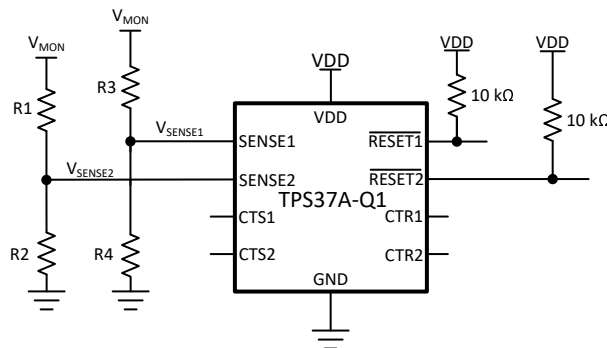

图 10-1. Adjustable Voltage Threshold with External Resistor Dividers
For example, consider a 12 V rail being monitored V_{MON} for undervoltage (UV) using channel 2 of the TPS37A010122DSKRQ1 variant. Using 方程式 7 and shown in 图 10-1, R_1 is the top resistor of the resistor divider that is between V_{MON} and V_{SENSE2} , R_2 is the bottom resistor that is between V_{SENSE2} and GND, V_{MON} is the voltage rail that is being monitored and V_{SENSE2} is the input threshold voltage. The monitored UV threshold, denoted as V_{MON-} , where the device will assert a reset signal occurs when $V_{SENSE2} = V_{IT-(UV)}$ or, for this example, $V_{MON-} = 10.8V$ which is 90% from 12 V. Using 方程式 7 and assuming $R_2 = 10k\Omega$, R_1 can be calculated shown in 方程式 8 where I_{R1} is represented in 方程式 9: